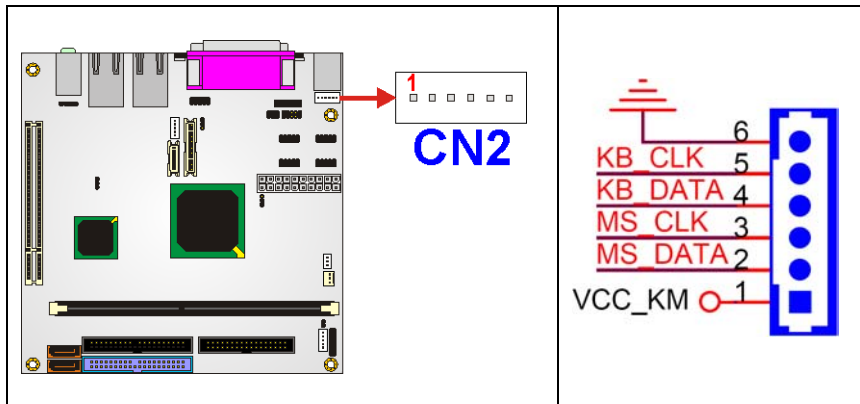

Figure 3-11: Keyboard/Mouse Connector Location
- CN Location: See **Figure 3-11**